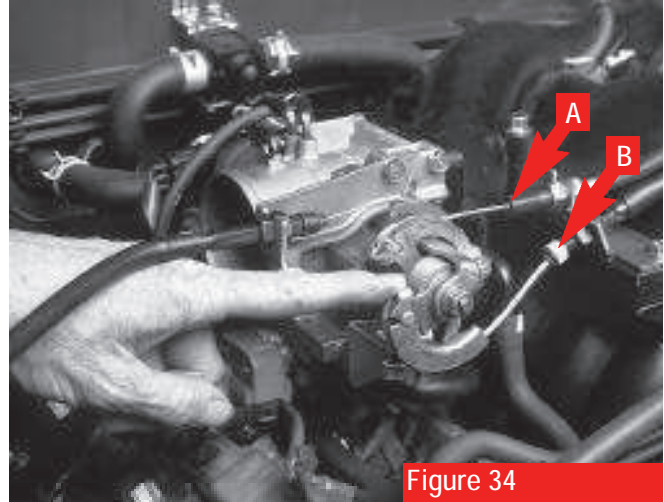

Figure 34
10. Install the transmission kickdown cable (**see arrow A, figure 34**) and throttle cable (**see arrow B, figure 34**) in the bracket.